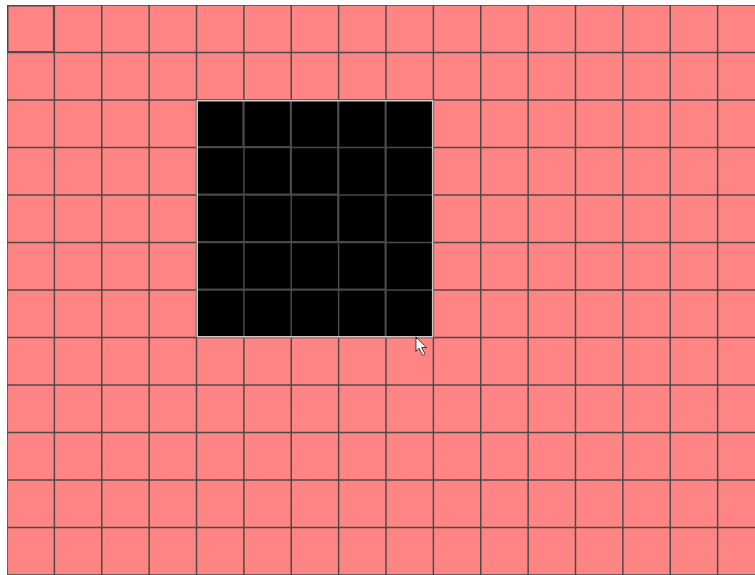

Figure 4.14
- **[Region]** Click setup; enter the settings area is divided into 16X12 blocks, red area for motion detection fortified area. The white area is undefended, Settings area. Hold down the left mouse button, draw settings area. See Figure 4.14 (By default the entire area selected for monitoring area).